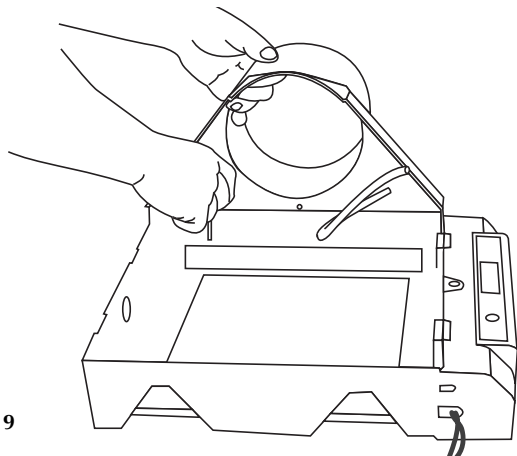

Figure 9
3. Remove the two #6 screws which hold the humidifier side in place (a short handled screw driver will give you easier access to the screws) (fig. 9.)